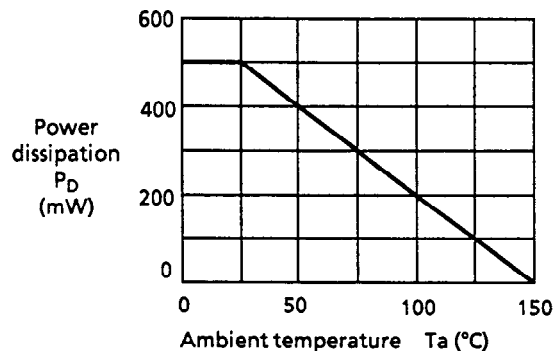

Figure 14 Package power dissipation (when not mounted)
- Take short-circuiting and overheating into consideration during design because no short-circuit or overheat protection circuits are loaded in the S-8437/8438AF. As reference, Figure 14 shows the package power dissipation when unmounting at an ambient temperature.